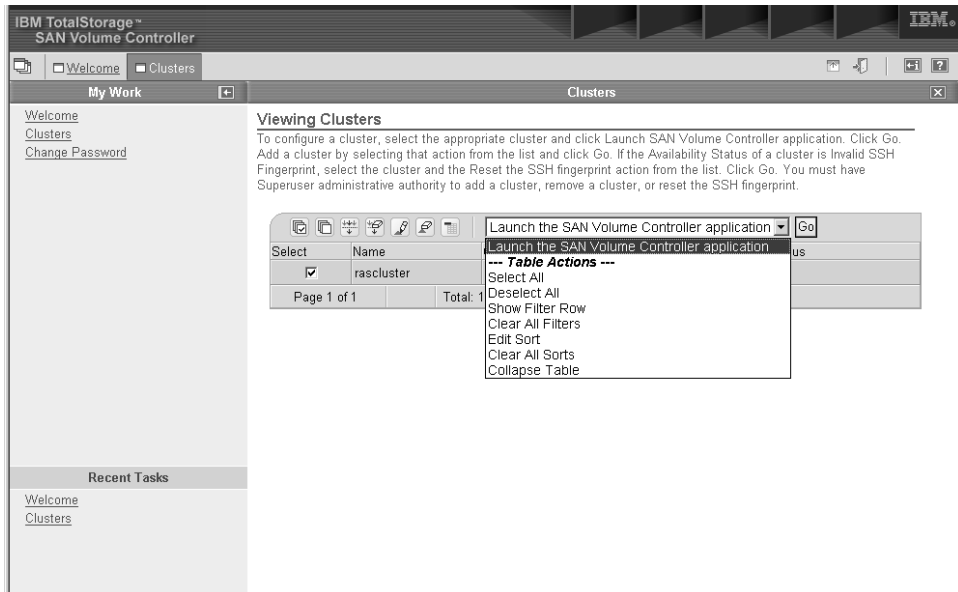

Figure 22. SAN Volume Controller Console view cluster panel with drop down menu selected
4. Because the SAN Volume Controller Console can support a number of SAN Volume Controller clusters, you must first select the SAN Volume Controller cluster that you want to service. Then, from the drop down menu, select **Launch the SAN Volume Controller application** as shown in Figure 22 on page 6.